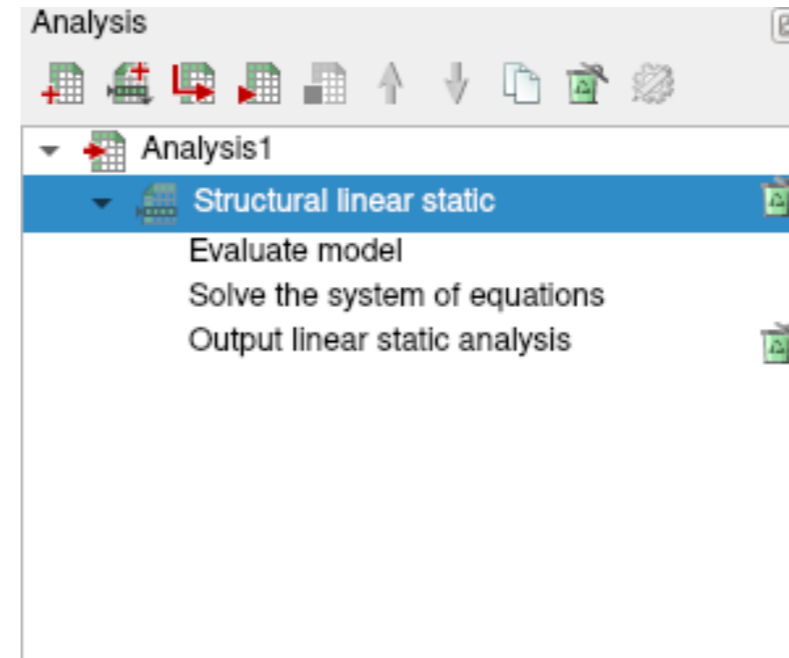

Figure 28: Analysis browser
**Analysis browser** → Analysis1  → Add command → Structural linear static [Fig. 28]